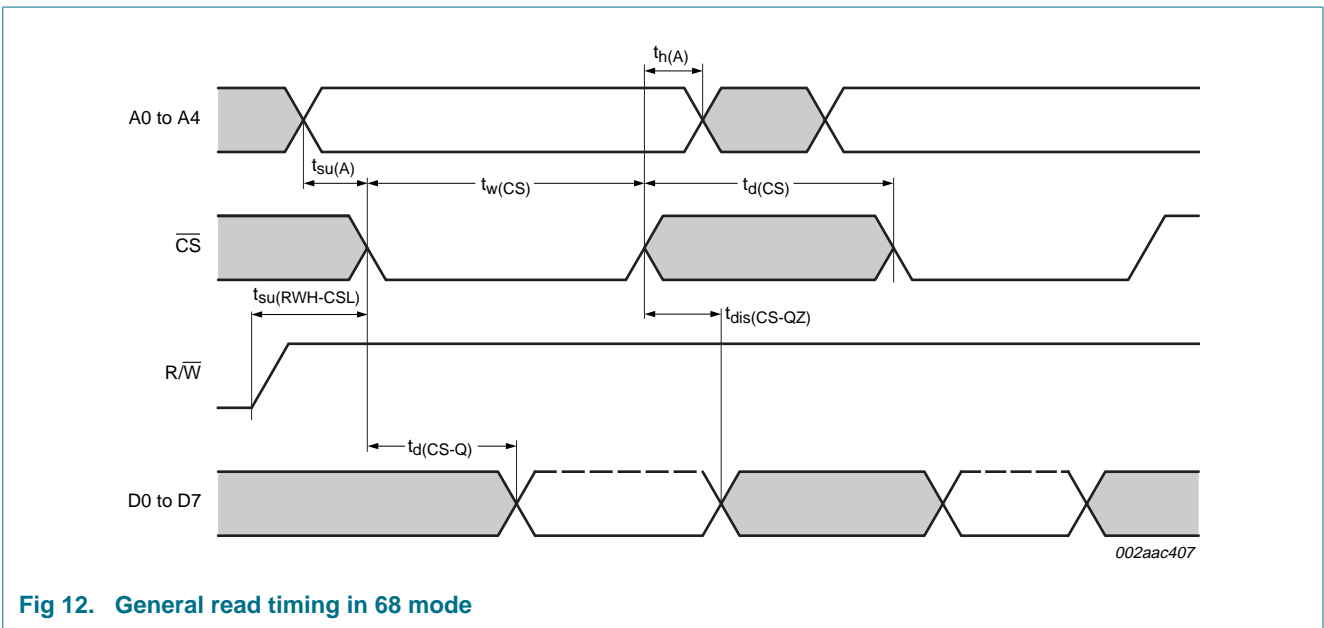

Fig 12. General read timing in 68 mode
- (2) \overline{CS} timing during a read cycle. See Figure 12.